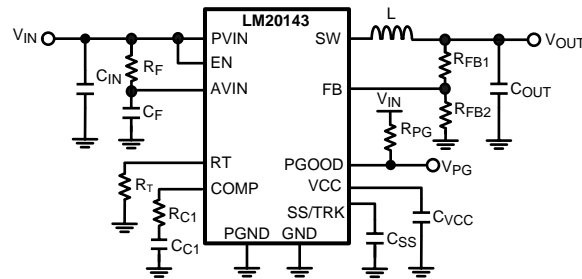

Figure 29. Typical Application Circuit
The LM20143 switching regulator features all of the functions necessary to implement an efficient low voltage buck regulator using a minimum number of external components. This easy to use regulator features two integrated switches and is capable of supplying up to 3A of continuous output current. The regulator utilizes peak current mode control with nonlinear slope compensation to optimize stability and transient response over the entire output voltage range. Peak current mode control also provides inherent line feed-forward, cycle-by-cycle current limiting and easy loop compensation. The switching frequency can be varied from 500 kHz to 1.5 MHz with an external resistor to ground. The device can operate at high switching frequency allowing use of a small inductor while still achieving efficiencies as high as 96%. The precision internal voltage reference allows the output to be set as low as 0.8V. Fault protection features include: current limiting, thermal shutdown, over voltage protection, and shutdown capability. The device is available in the HTSSOP 16-pin package featuring an exposed pad to aid thermal dissipation. The LM20143 can be used in numerous applications to efficiently step-down from a 5V or 3.3V bus. The typical application circuit for the LM20143 is shown in Figure 29 in the design guide.
This section walks the designer through the steps necessary to select the external components to build a fully functional power supply. As with any DC-DC converter numerous trade-offs are possible to optimize the design for efficiency, size, or performance. These will be taken into account and highlighted throughout this discussion. To facilitate component selection discussions the circuit shown in Figure 29 below may be used as a reference. Unless otherwise indicated all formulas assume units of amps (A) for current, farads (F) for capacitance, henries (H) for inductance and volts (V) for voltages.
To prevent high frequency noise spikes from disturbing the sensitive analog circuitry connected to the AVIN and AGND pins, a high frequency RC filter is required between PVIN and AVIN. These components are shown in Figure 29. as C_F and R_F . The required value for R_F is 1Ω. C_F must be used. Recommended value of C_F is 1.0 μF. The filter capacitor, C_F should be placed as close to the IC as possible with a direct connection from AVIN to AGND. A good quality X5R or X7R ceramic capacitor should be used for C_F .